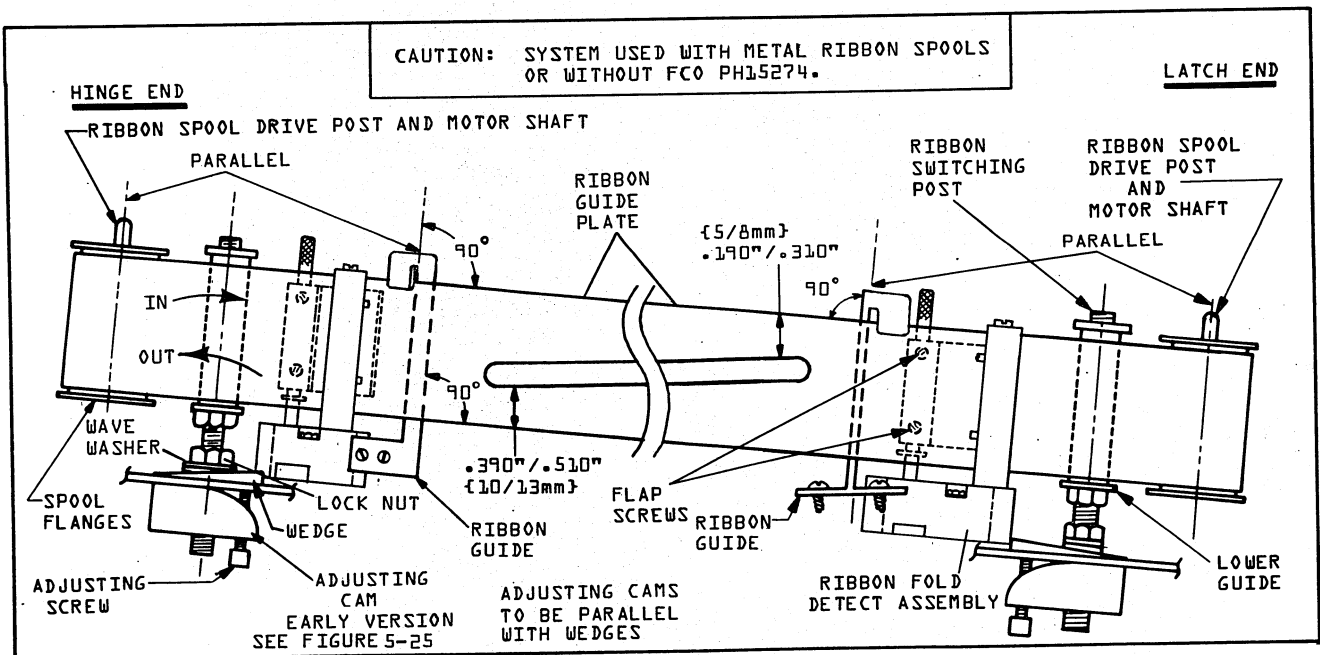

FIGURE 5-22. RIBBON SYSTEM
7. Loosen the two mounting screws on the flap and move the flap up or down as required. See Figure 5-22.